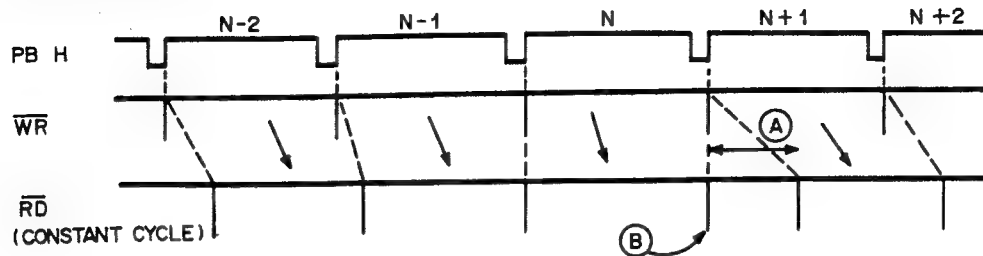

Fig. 3-11
In this case, since the period of the  $\overline{WR}$  signal is longer than that of the  $\overline{RD}$  signal, the  $\overline{WR}$  signal becomes closer to the  $\overline{RD}$  signal from the left side. If this condition continues as it is, the  $\overline{RD}$  signal will pass the  $\overline{WR}$  signal and data for the same line will be read out twice. Because of this, when the falling edge of the PBH signal comes to the detection window of address 98 — 105, address 56 is loaded as the initial value of the next H address counter (to count from 0 to 112). Then the subsequent  $\overline{RD}$  signal (corresponding to an H address of 111) comes to the position separated by  $1/2H$  period (period (A) in the above diagram), as shown in Fig. 3-11.
Since writing to the line memory is always performed continuously, the data will not be lost and there is no affect on the screen even if the  $\overline{RD}$  signal is shifted by  $1/2H$ . Since the data read out from the line memory is immediately written into the field memory, the writing to the field memory is inhibited during period (A) shown in Fig. 3-11.